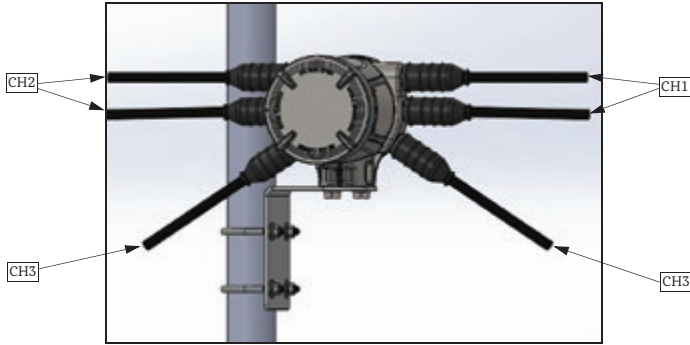

Figure 45: XMT1000, 3 channel junction box
- Thread one end of transducer cables into 3 channel junction box as shown in Figure 45. (Cable locations in Figure 45 are for reference only. Transducer cables can be placed in any orientation).